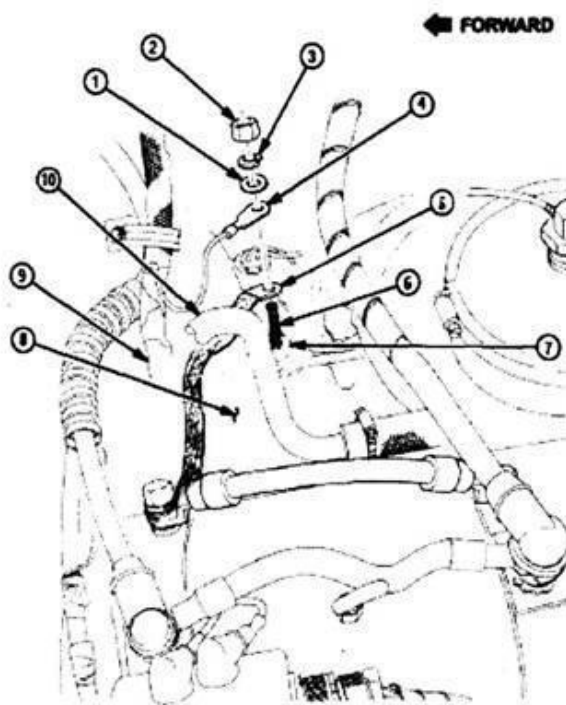

Figure 56B
(9) Route ground strap (5) over the Alternator/Power Steering Support Bracket (8), under tube (10) and wiring harness (9) to stud (6) on engine coolant crossover (7) and secure with existing cable (4), washer (1), 11500207 lock washer (3), and nut (2) as shown in **Figure 56B**.
(10) Tighten screw (5) as shown in **Figure 56B**.